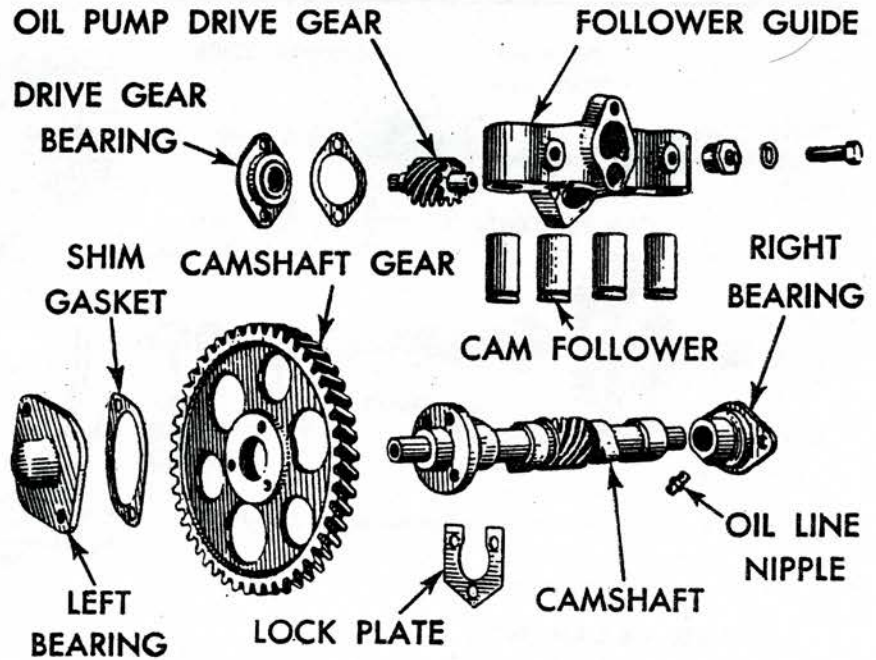

Fig. 5 Camshaft and related parts. Series B
**SERIES 50, 60, A, B, G**—Figs. 5 and 6. Barrel type lifters are employed in Series A, B, 50, 60 engines, whereas lifters of the mushroom type are used in Model G.
**SERIES B**—Fig. 5. The camshaft is mounted on two bearings and end play is controlled by gaskets under the left-hand camshaft bearing. Add or remove gaskets as required to obtain  $\frac{1}{64}$  to  $\frac{1}{32}$ " end play.